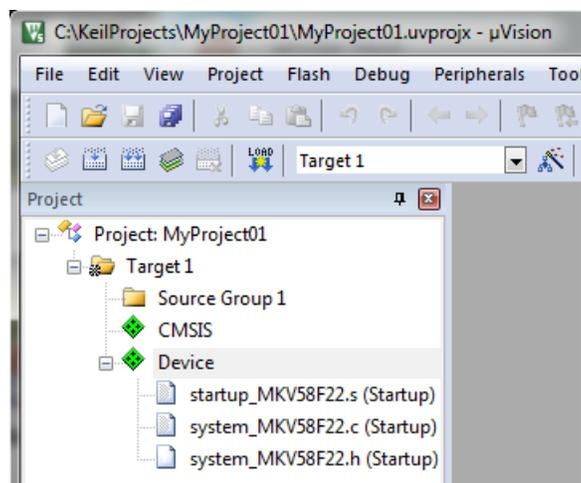

Figure 1-27. Project
10. Click OK, and a new project is created. The new project is now visible in the left-hand part of Keil μVision. See Figure 1-27.
13. Select Use Single Precision in the Floating Point Hardware option. See Figure 1-27.